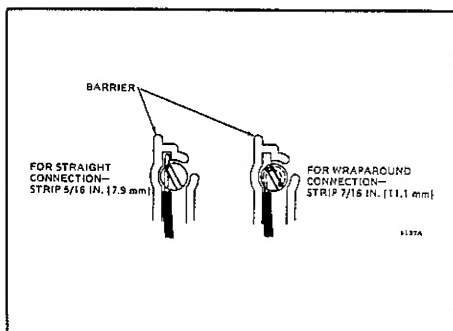

Fig. 4—Methods of connecting terminals.
- ☐ Refer to Fig. 4 and strip thermostat wire insulation as necessary.